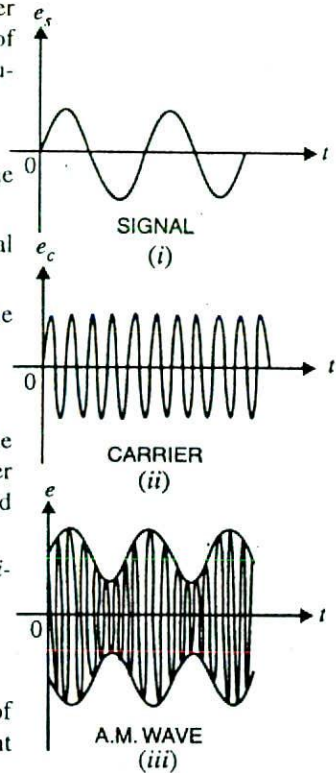

Fig. 18.2
In amplitude modulation, only the amplitude of the carrier wave is changed in accordance with the intensity of the signal. However, the frequency of the modulated wave remains the same *i.e.* carrier frequency. Fig. 18.2 shows the principle of amplitude modulation. Fig. 18.2 (i) shows the audio electrical signal whereas Fig. 18.2 (ii) shows a carrier wave of constant amplitude. Fig. 18.2 (iii) shows the amplitude modulated (AM) wave. Note that the amplitudes of both positive and negative half-cycles of carrier wave are changed in accordance with the signal. For instance, when